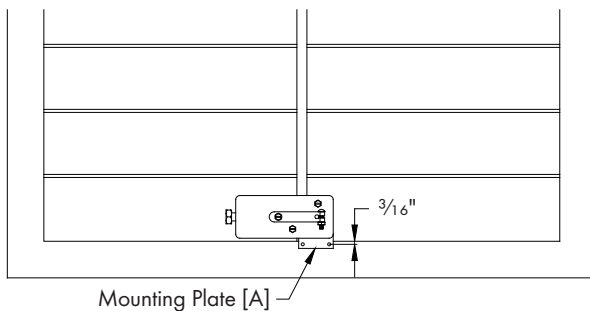

Figure 7
Position Mounting Plate on bottom shutter frame with holes 3/16" below edge and with the left hole in line with Connecting Bar. Mark and drill two 1/8" dia. holes in frame. Fasten Mounting Plate with Motor to frame using (2) Tapping Screw [G]. See Figure 7.